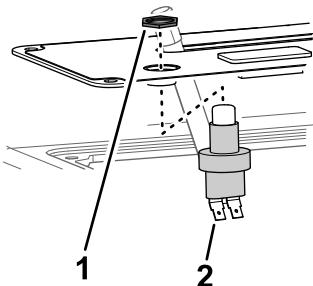

Figure 5
3. Assemble the switch to the control-panel cover with the jam nut, and tighten the jam nut by hand (Figure 5).